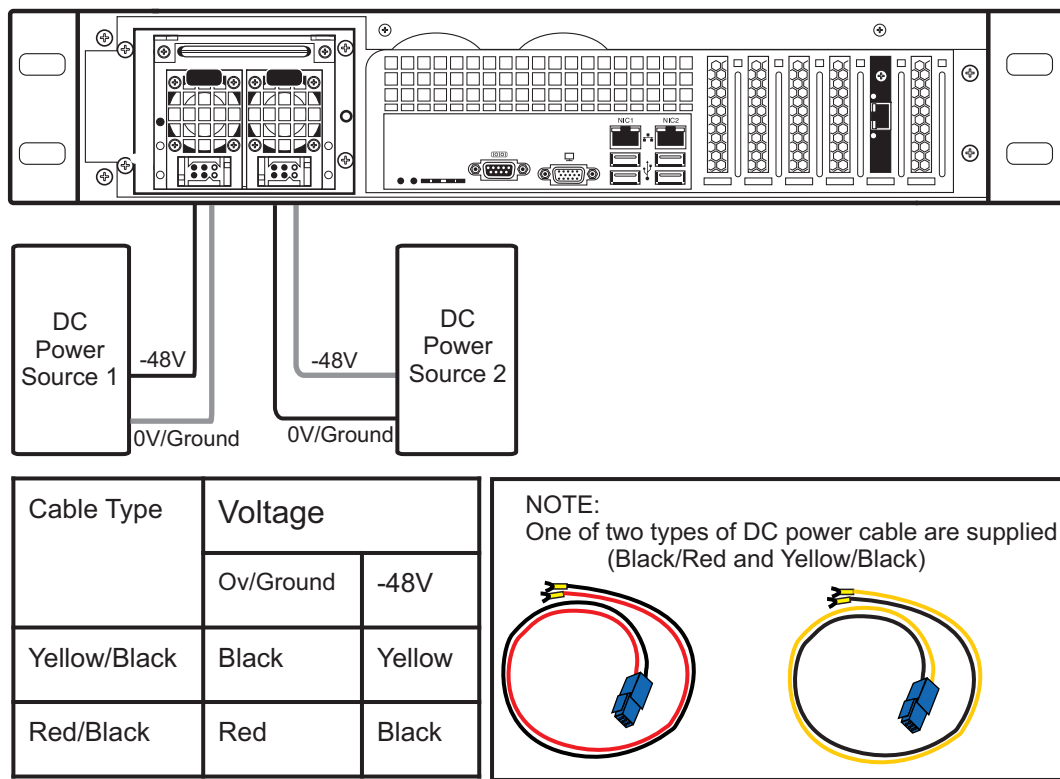

Figure 2.21 7800-CTRL DC Power Connections
1. Connect the first DC power connector of the 7800-CTRL to DC power source one. See figure 2.21 on page 27.